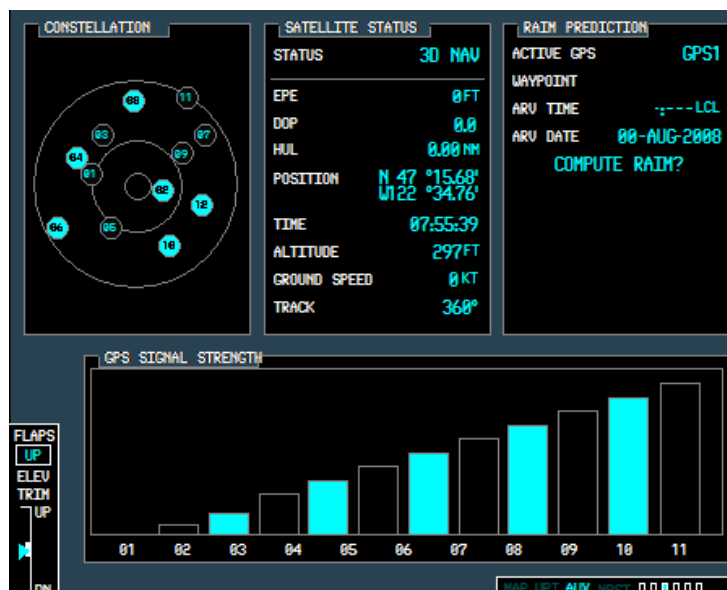

Figure 5.25
10. to reset the flight timer time, departure time, odometer readouts, or groundspeed data, click on the MENU button to display the Utility Page Menu Window (Figure 5.25).
The GPS Status Page is the third page of the AUX Page Group (Figure 5.25), and provides the following information and functions: